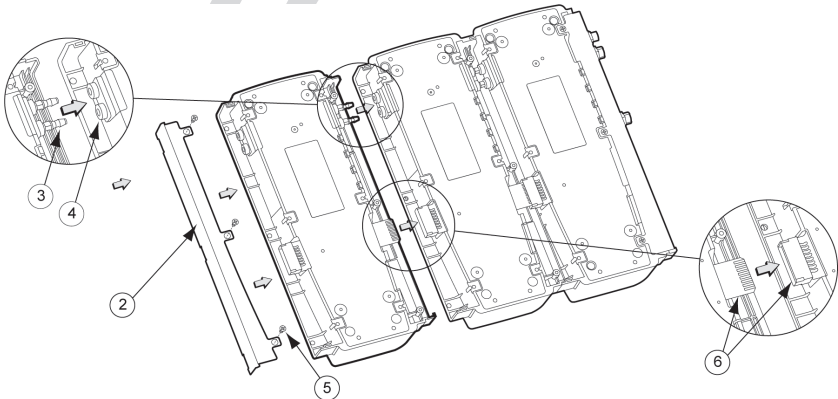

Figure 9. Adding Another Docking Module (Back View)
21. After all of the modules have been added, attach the end plate (refer to Figure 9).